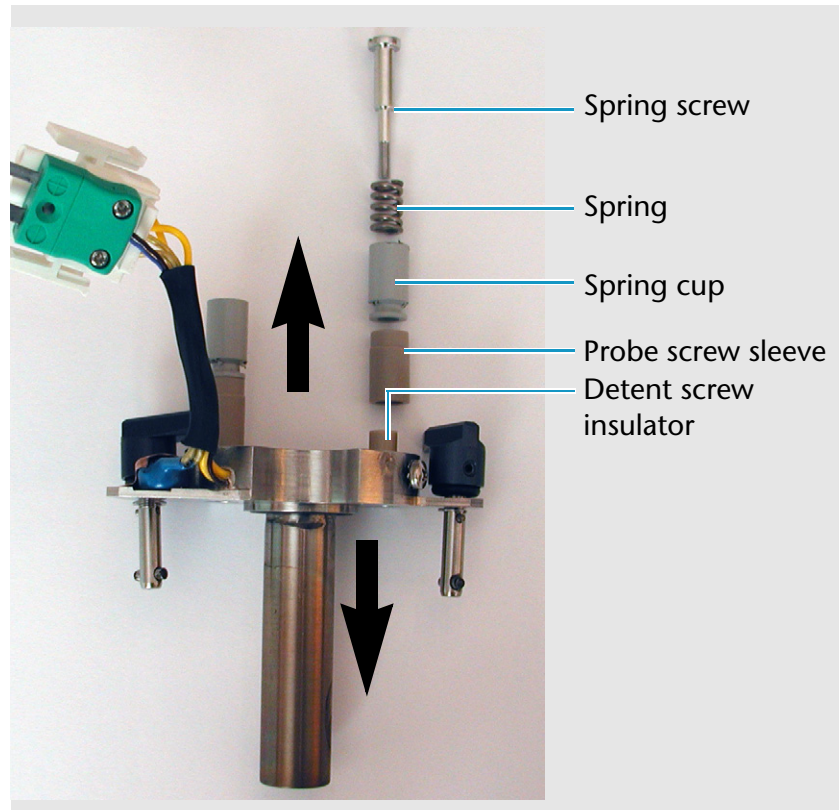

Fig. 58 Partially disassembled probe heater
- ▶ Pull the detent screw insulator out the underside of the probe heater body. See Figure 58.